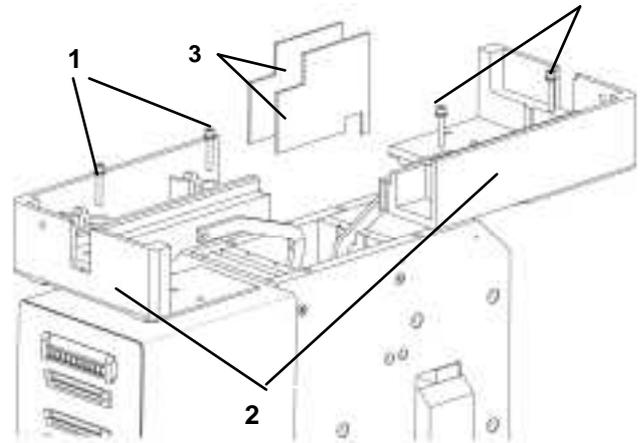
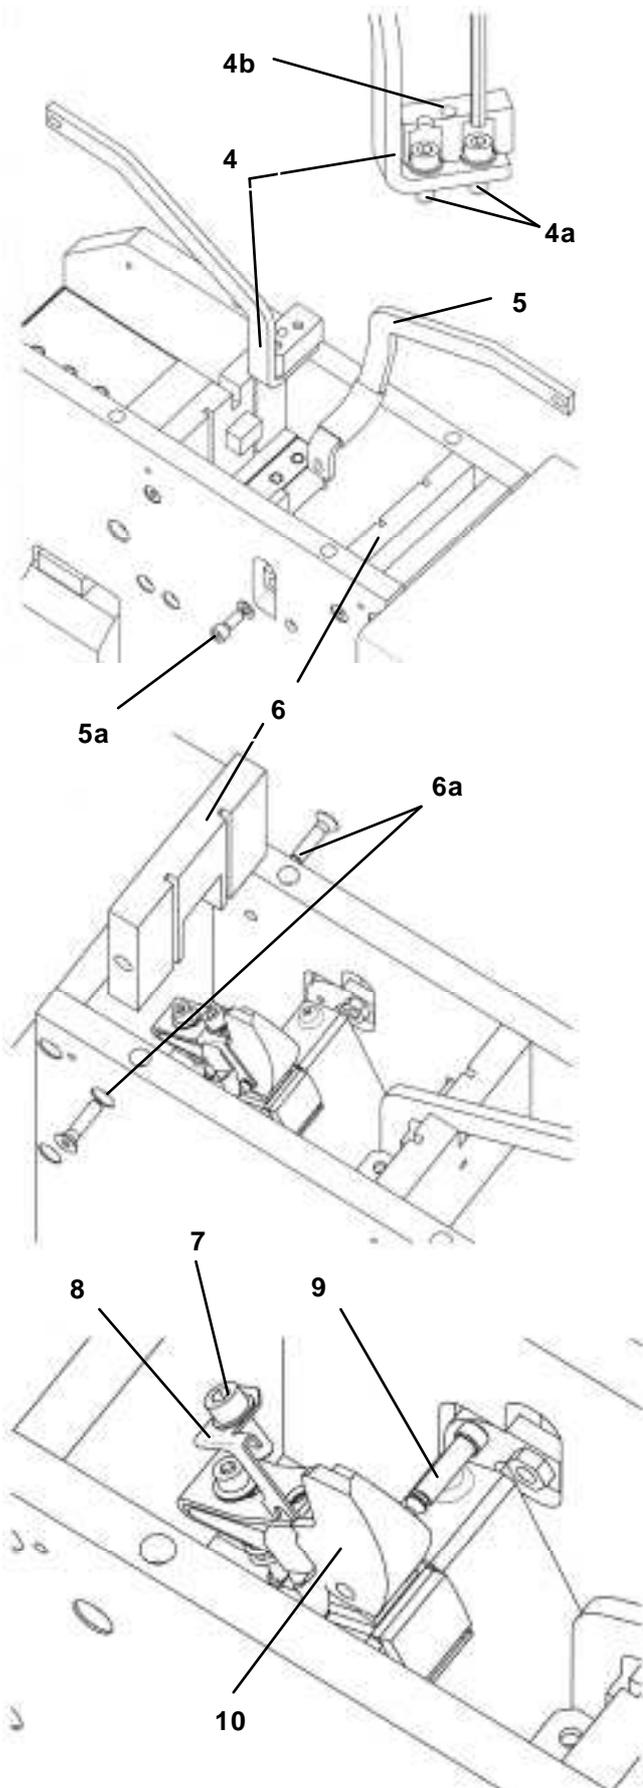

Fig. 48 Adapter and protective walls
Fig. 50 Changing arcing contact.
- [Fig. 48]. To dismantle the arc chute adapter, loosen and pull out the four upright screws (1) using SW5 tool. Pay attention that no screws or washers fall inside the breaker!
- [Fig. 48]. Draw aside and lift off both parings of adapter (2). Then pull out two protective walls (3).
- [Fig. 48]. Pull out two protective walls (3).
- [Fig. 50]. Loosen screws (6a) with tool (SW4) and take out front wall (6).
- [Fig. 50]. Loosen screw (5a) with tool (SW5) and take out the front arc runner (5).
- [Fig. 50]. Take out the back arc runner (4) by loosening two screws (4a) with tool (SW5). Don't remove the protective cap (4b).
- [Fig. 50]. Loosen and take out screw (7) including locking plate (8). Don't split up screw and locking plate!
- [Fig. 50]. Pull out axis pin (9). Pull out arcing contact (10) and put in new arcing contact.
- [Fig. 50]. Put in axis pin (9) and protect it by the locking plate (8). Tighten screw (7) with torque of 10 Nm [88 in-lbs].
- [Fig. 50]. Install front-arc runner (5) and back-arc runner (4). Tighten it using torque of 10 Nm [88 in-lbs].
- [Fig. 50]. Install front wall (6) and adjust it by positioning the protective wall. Tighten with torque of 10 Nm [88 in-lbs].
- [Fig. 48]. Put in two protective walls (3).
- [Fig. 48]. Install two protective walls (3). Use new ones if necessary. Install two parings of adapter (2) and tighten screws (1); use 5 Nm [44 in-lbs].
- [Fig. 50]. Loosen screws (6a) with Torx® 30 and take out front wall (6).
- [Fig. 50]. Loosen screw (5a) with tool (SW5).
- [Fig. 50]. Take out the front arc runner as it's shown.
- [Fig. 50]. Install new front-arc runner (5) and new back-arc runner (4). Tighten it using torque of 10 Nm [88 in-lbs].
- [Fig. 50]. Install front wall (6) and adjust it by positioning the protective wall (3) [Fig. 48]. Tighten it using torque of 10 Nm [88 in-lbs]
- [Fig. 48]. Put in two new protective walls (3).